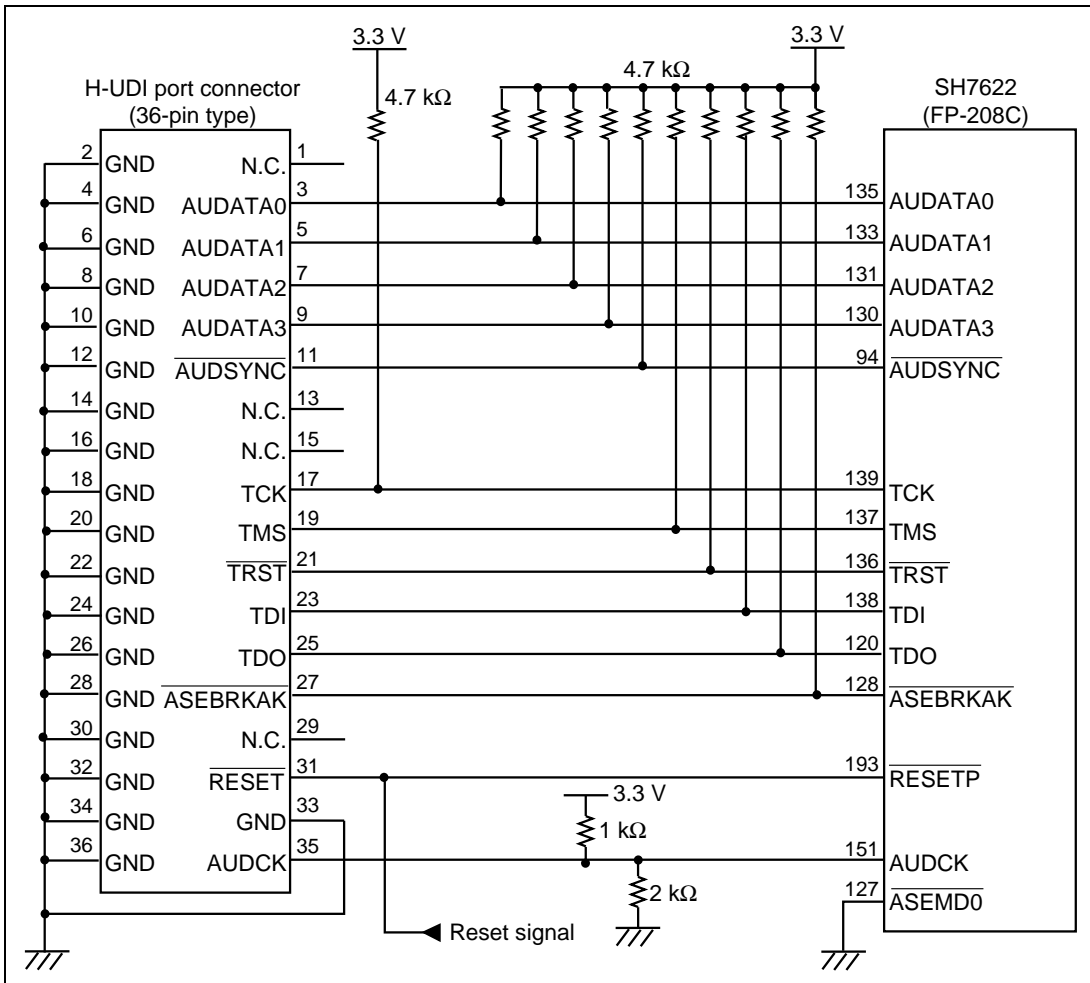

Figure 1.4 Recommended Circuit for Connection between the H-UDI Port Connector and MPU (36-Pin Type)
Figure 1.4 shows a recommended circuit for connection between the H-UDI port connector (36 pins) and the MPU.
- (1) When the emulator is used: /ASEMD0 = low (ASE mode)
- (2) When the emulator is not used: /ASEMD0 = high (normal mode)
6. The resistance values shown in figure 1.4 are recommended.